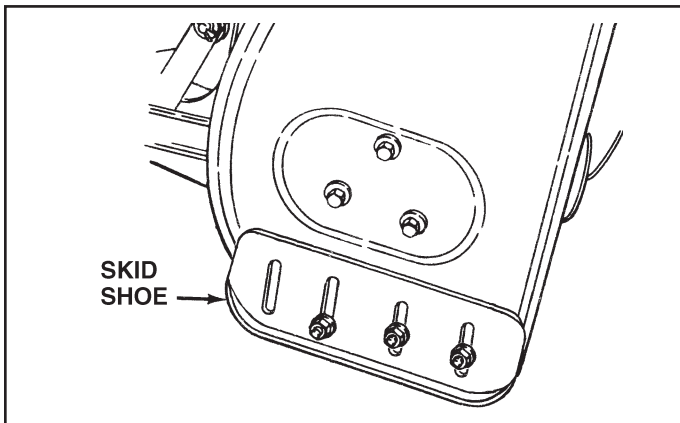

FIGURE 59
(Refer to figures 59 and 60 on page 28.)
- Raise the snow thrower off the ground and place a block under each end of the scraper plate. Loosen the six hex nuts securing the skid shoes to the housing. Adjust the skid shoes up or down and retighten the nuts securely. Adjust both skid shoes to the same height to keep the housing and the scraper plate level. See figure 59.